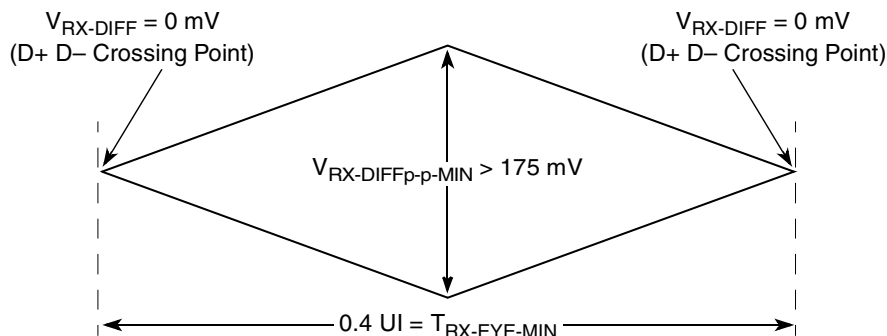
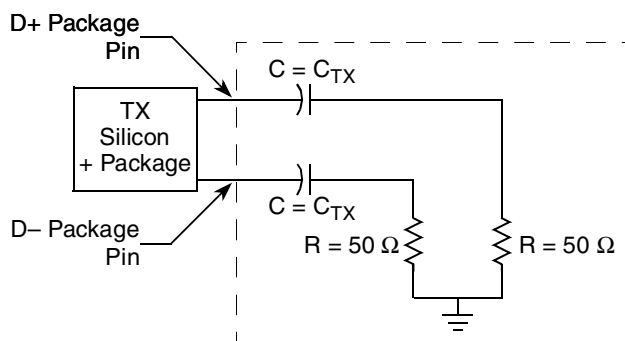

Figure 42. Minimum Receiver Eye Timing and Voltage Compliance Specification
Figure 43. Compliance Test/Measurement Load
- 2.) Specified at the measurement point and measured over any 250 consecutive UIs. The test load in Figure 43 should be used as the RX device when taking measurements (also refer to the receiver compliance eye diagram shown in Figure 42). If the clocks to the RX and TX are not derived from the same reference clock, the TX UI recovered from 3500 consecutive UI must be used as a reference for the eye diagram.
- 4.) The receiver input impedance shall result in a differential return loss greater than or equal to 15 dB with the D+ line biased to 300 mV and the D– line biased to –300 mV and a common mode return loss greater than or equal to 6 dB (no bias required) over a frequency range of 50 MHz to 1.25 GHz. This input impedance requirement applies to all valid input levels. The reference impedance for return loss measurements for is 50 Ω to ground for both the D+ and D– line (that is, as measured by a Vector Network Analyzer with 50- Ω probes—see Figure 43). Note that the series capacitors CTX is optional for the return loss measurement.
The RX eye diagram in Figure 42 is specified using the passive compliance/test measurement load (see Figure 43) in place of any real PCI Express RX component.
Note: In general, the minimum receiver eye diagram measured with the compliance/test measurement load (see Figure 43) will be larger than the minimum receiver eye diagram measured over a range of systems at the input receiver of any real PCI Express component. The degraded eye diagram at the input receiver is due to traces internal to the package as well as silicon parasitic characteristics which cause the real PCI Express component to vary in impedance from the compliance/test measurement load. The input receiver eye diagram is implementation specific and is not specified. RX component designer should provide additional margin to adequately compensate for the degraded minimum receiver eye diagram (shown in Figure 42) expected at the input receiver based on some adequate combination of system simulations and the return loss measured looking into the RX package and silicon. The RX eye diagram must be aligned in time using the jitter median to locate the center of the eye diagram.
The reference impedance for return loss measurements is $50\ \Omega$ to ground for both the D+ and D– line (i.e., as measured by a vector network analyzer with $50\text{-}\Omega$ probes—see Figure 43). Note that the series capacitors, CTX, are optional for the return loss measurement.
The AC timing and voltage parameters must be verified at the measurement point, as specified within 0.2 inches of the package pins, into a test/measurement load shown in Figure 43.